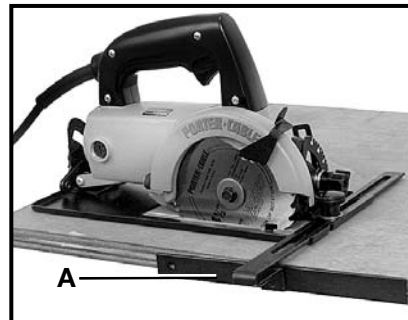

Fig. 9
For narrow rip cuts, the rip guide, available as an accessory, can be used. The saw is guided by keeping the inner face of the rip guide (A) Fig. 9 tight against the edge of the board.